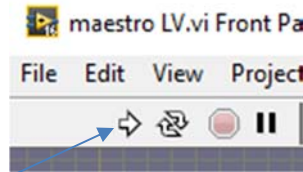

Figure 9. Run Icon
2.2.4 Start the vi's by selecting the run icon (fig.9) located at the top left corner of each window in the following order